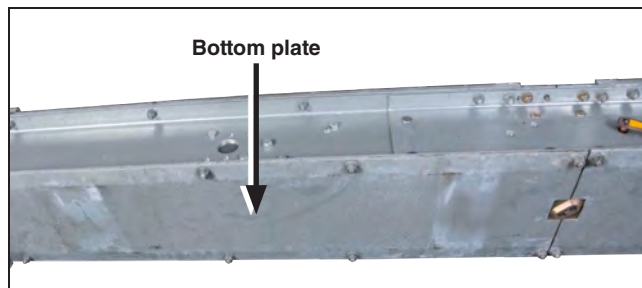

Figure 6. Removing the bottom plates from the high-speed base.
- STEP 1.** Loosen the ½-13 × 1¼-inch galvanized steel cap screws, flat washers, and nuts attaching the bottom plates to the underside of the high-speed base. Remove the plates and place them and their hardware aside on a clean surface. See Figure 6.